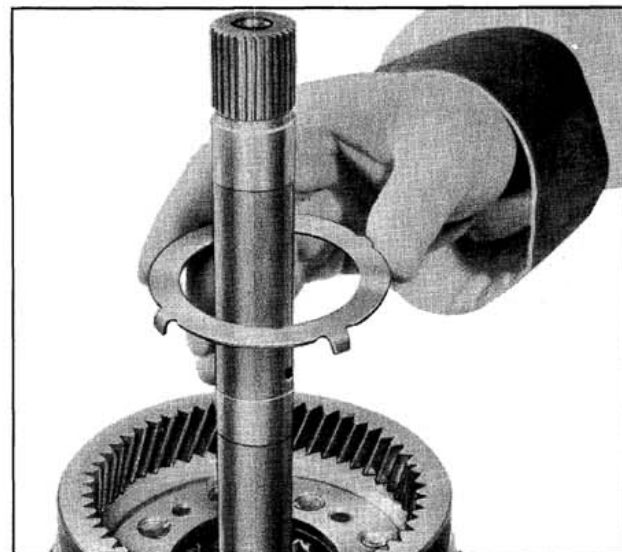

Fig. 6-85 Removing Thrust Washer
7. Remove reaction carrier to output carrier thrust washer. (Fig. 6-85)